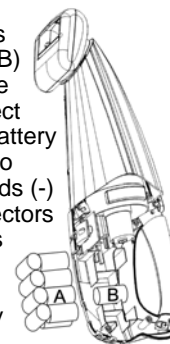

Fig. 8
5. Carefully lift out the top battery pack (A) and disconnect the terminals. Then remove the single battery (B) that is on the bottom and disconnect the terminal. (Fig. 8)
6. Connect the terminals to the single battery (B) first and insert into the new unit. Then connect the terminals to the battery pack (A) taking care to connect the black leads (-) to the negative connectors first and the red leads (+) to the positive connectors second. Place the new battery (A) into the battery compartment.